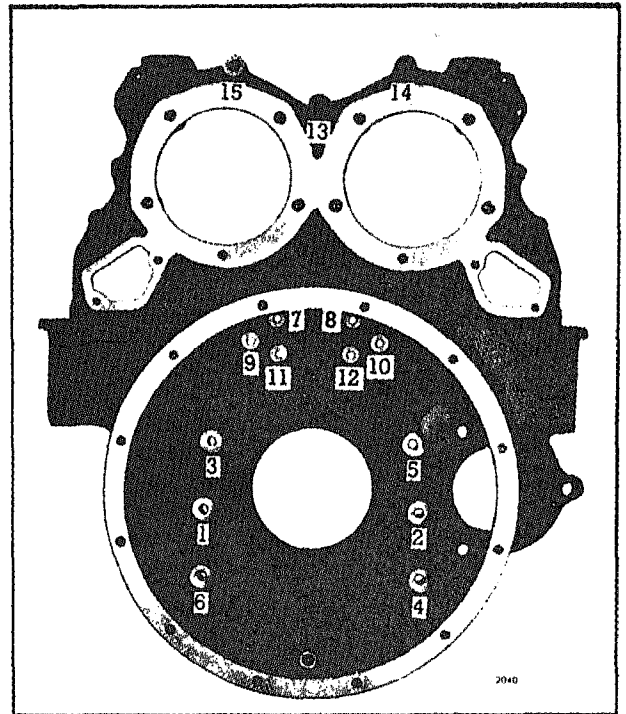

Fig. 6 - Flywheel Housing Bolt Tightening Sequence (Operation 2)--In-Line Engine
9. Refer to Fig. 6 for the final bolt tightening sequence on an In-line engine. Then start at No. 1 and tighten the bolts to the specified torque.